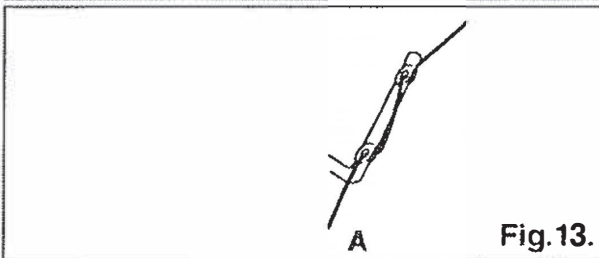
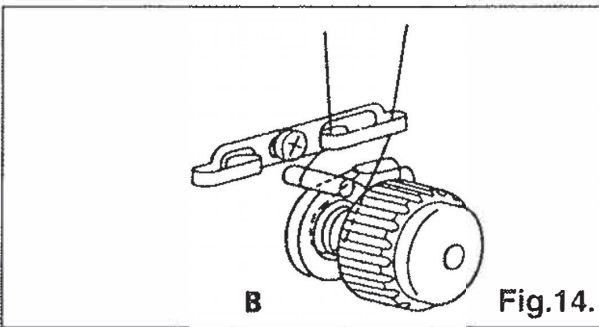
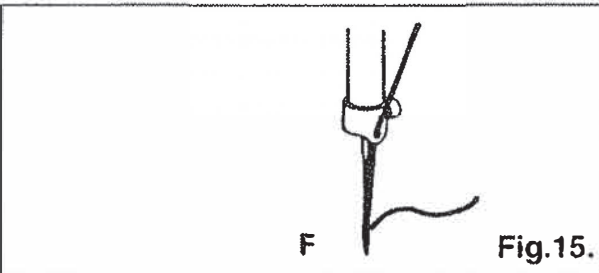

Fig.13.
Fig.14.
Fig.15.
- 1.Lead thread from the thread unwinder through all the threading points A (Fig.14),B (Fig.15), C (Fig.13), D (Fig.13), and E (Fig.13) in the order shown.
- 2.Thread the needle from front to back, as shown in Fig.15.